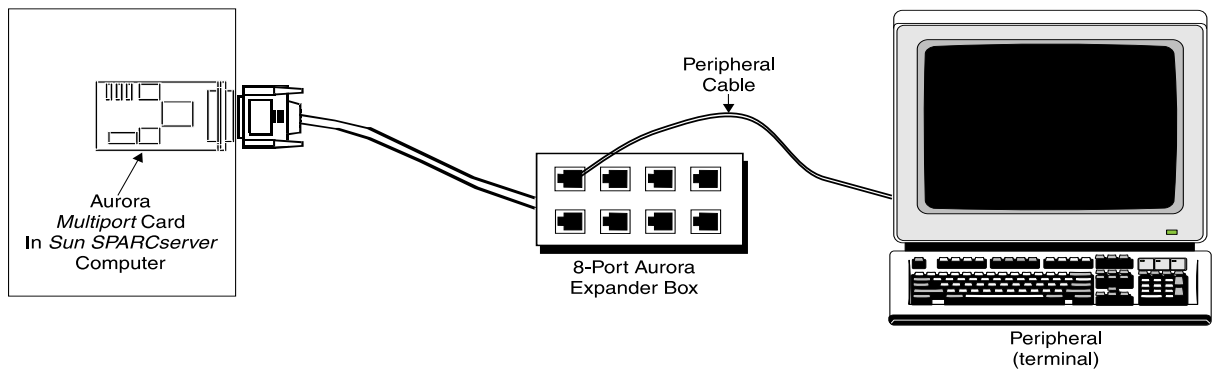

Figure D-58: Connecting an Aurora Expander Box to a Peripheral
3. Attach one end of the cable to the peripheral, and the other end to one of the expander box connectors (see Figure D-58).